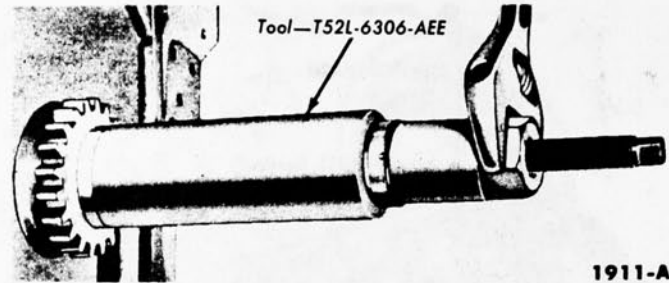

FIG. 39—Crankshaft Sprocket Installation
1. Place the key in position in the slot in the crankshaft. Install the crankshaft sprocket (Fig. 39).